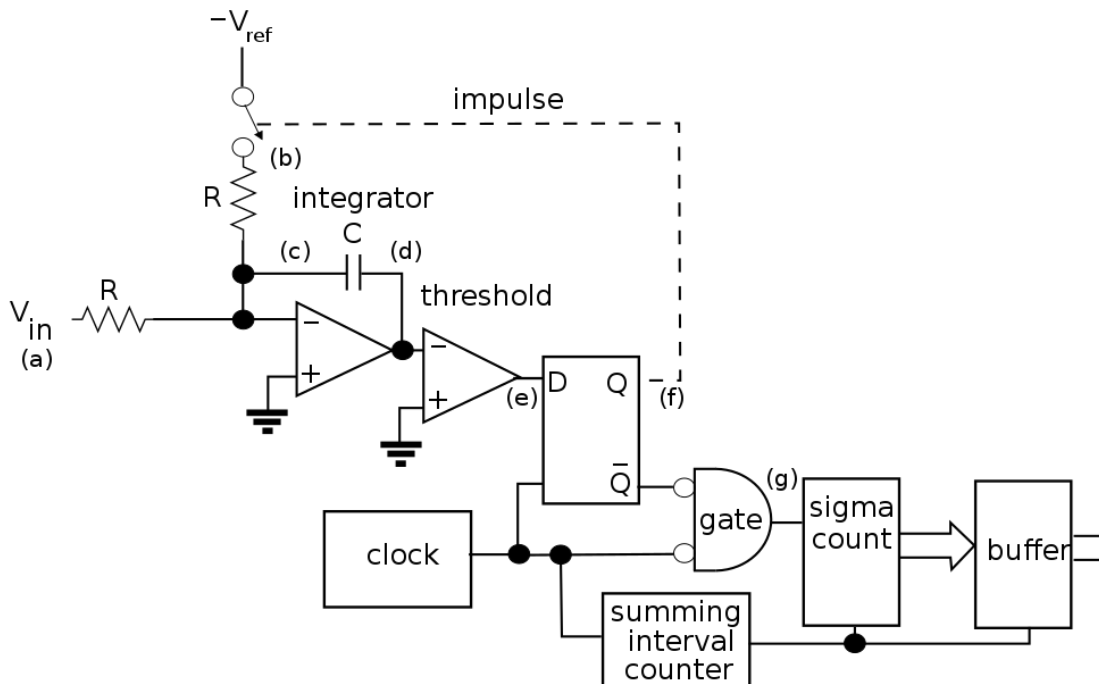

Fig. 1 First Order Delta-Sigma Modulator and Decimation Filter Example
In this session we will use the designed amplifier in a practical circuit. The chosen practical circuit is a First-Order Delta-Sigma Modulator ADC. It is an oversampled noise-shaped modulator composed of an active integrator, a latched comparator and single bit DAC (see Fig. 1).
2. Replace the ideal opamp by the Miller opamp “opamp\_poor\_SR.asc” designed in a similar way as in previous session. Simulate circuit of figure 1 again with the real opamp.